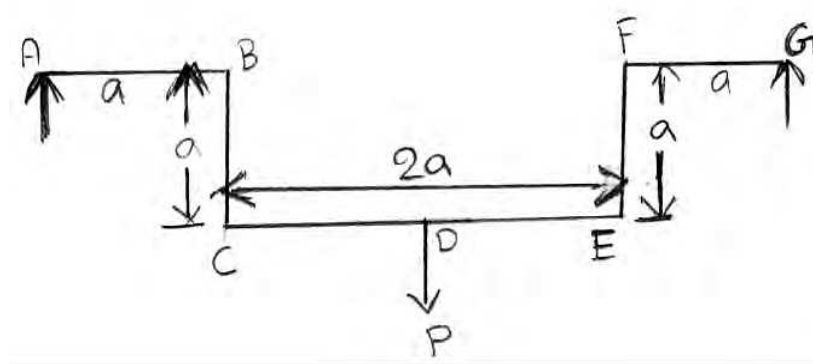

Figure 1:
1. Find the central deflection of the uniform bend ABCDEFG shown in figure 1 by using Castiglano theorem. [16]